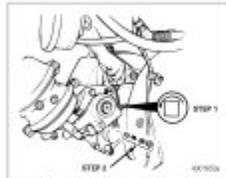

Figure 13.4
1. Turn the adjusting nut on the automatic slack adjuster to move the inboard lining against the rotor. Figure 13.4.